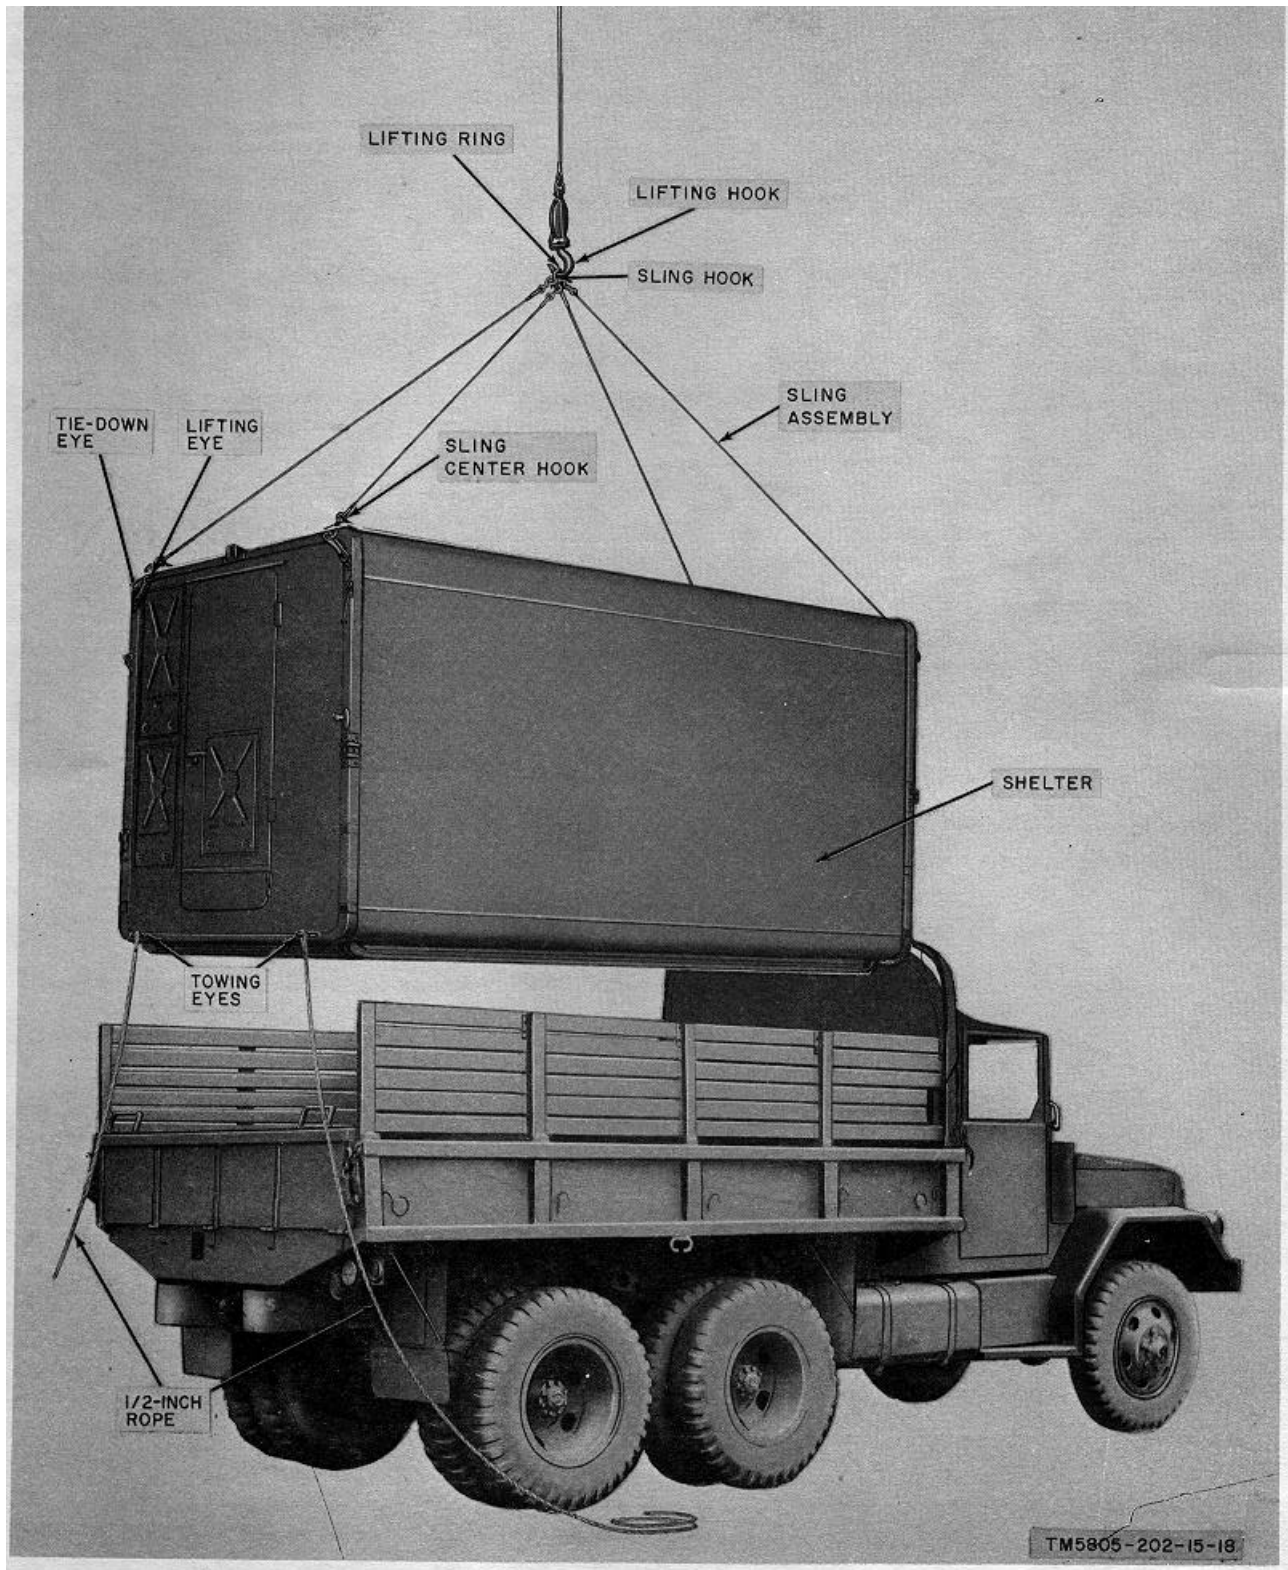

Figure 14. Loading shelter.
a. *loading Shelter* (fig. 14). If the shelter is to be mounted on a truck, proceed as follows:
- (1) Use the sling hooks nearest the turnbuckles and hook the four sling assemblies to the shelter lifting eyes.
- (2) Lay the sling assemblies on the top of the shelter.
- (3) Hook the four sling hooks in the lifting ring.
- (4) Slip the lifting ring over the lifting hook of the lifting device.